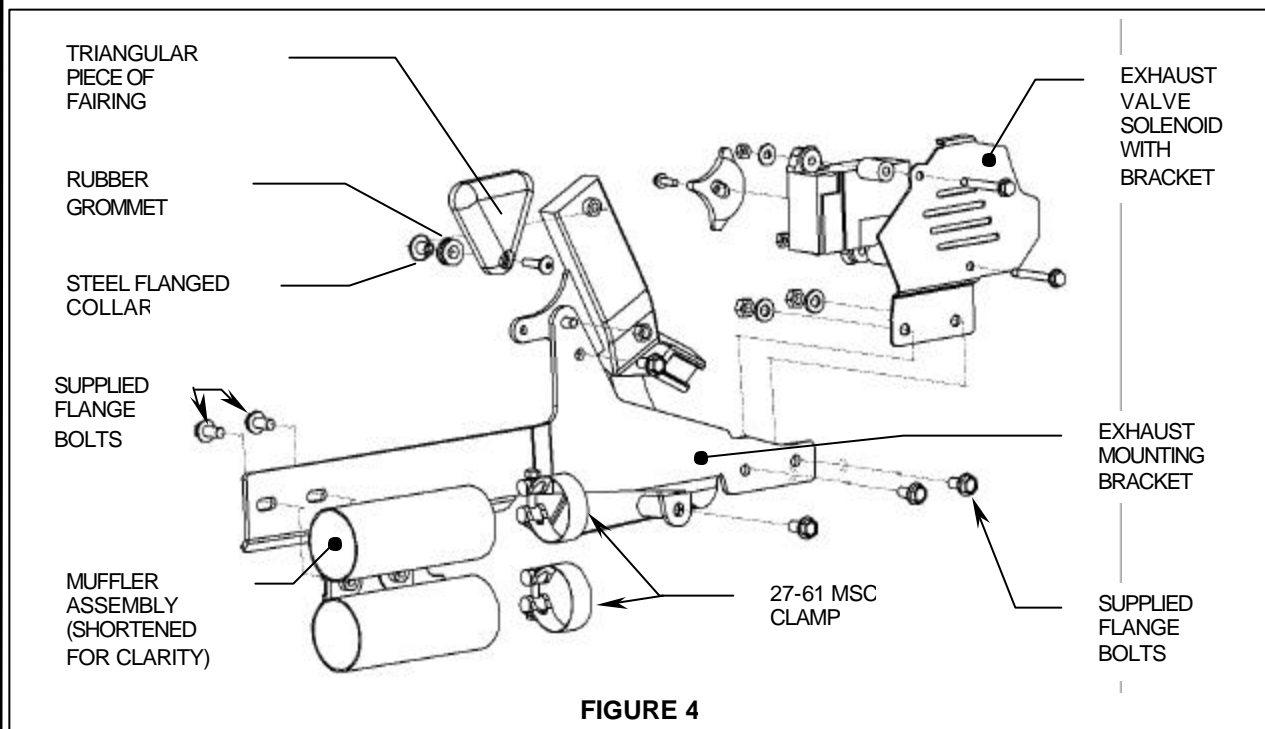

FIGURE 4
10. Install the exhaust mounting bracket onto the existing stud in the frame member; see Figure 4. Install the stock 8 mm nut and two original 8 mm flange bolts into the exhaust bracket, tighten to factory specifications. Mate the preassembled exhaust valve solenoid and bracket to the inside of the exhaust mounting bracket using two 5/16" flange bolts inserted from the outside and two 5/16" washers and nuts from the inside, see Figure 4. Reconnect the black 3-prong connector and white 2-prong connector to the exhaust valve solenoid. Tighten to proper torque specs.
12. Remove the muffler assembly from the box and slide two supplied 27 - 61MSC clamps onto the muffler tubes. The clamps should be orientated as shown in Figure 4. Slide the muffler onto the head pipes by tapping it onto the head pipes with your hand as you push the mufflers forward making sure the muffler slides as far forward as possible. Secure the muffler to the exhaust-mounting bracket using the supplied 5/16-18 bolts but **DO NOT TIGHTEN.**
14. Reinstall the small plastic fairing above the exhaust mounting bracket, and secure with M6 button head bolt. Reinstall the right side fairing removed in Step 1. Use the steel flanged collar and rubber grommet removed in Step 2 to space the triangular shaped piece of the fairing (with M109 insignia), away from the frame, press the steel collar back into the large rubber grommet, the larger face of the steel collar must face inward against the frame, secure with the stock M6 button head bolt, see Figure 4. Reinstall the seat once all body panels have been secured in place.